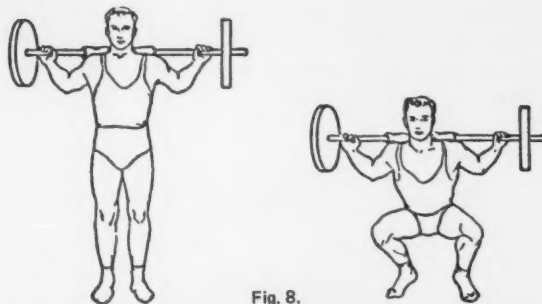

Fig. 8.
• **Knee Bend** (leg exercise) (Fig. 8). Place a barbell on your shoulders. A towel may be used to pad the bar. Spread your feet slightly. Lower to a squatting position until your upper leg is parallel to the floor and then immediately rise to the starting position. Look straight ahead as you go down and up as you rise. Do not round your back; keep it as flat as possible. Keep as erect as possible throughout the exercise. To avoid back injury, correct form is essential in this exercise.